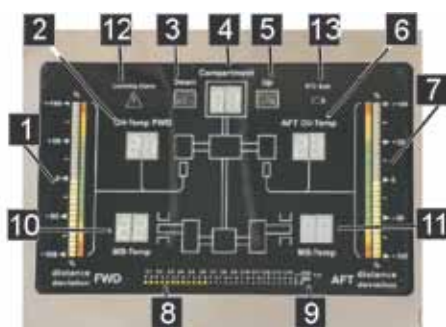

Fig. 91: Indication unit, full configuration
If the system has been installed correctly all respective values subject to installed components can be monitored. All values are displayed on the Indication unit (Fig. 91).
1. Use the optical buttons "Up" (Fig. 91/2) and "Down" (Fig. 91/4) to scroll through the different compartments.
The splash oil temperature is measured by the distance sensors as well. The respective temperature is presented as absolute value for each side of a compartment (Fig. 91/1 and Fig. 91/5).
The temperature of the main bearings (Fig. 91/7 and Fig. 91/10) will be displayed when the engine has been started and the load increases.
The LED row Fig. 91/8 indicate installed distance sensors for every compartment:
The two LEDs Fig. 91/9 show the installed water-in-oil sensor: